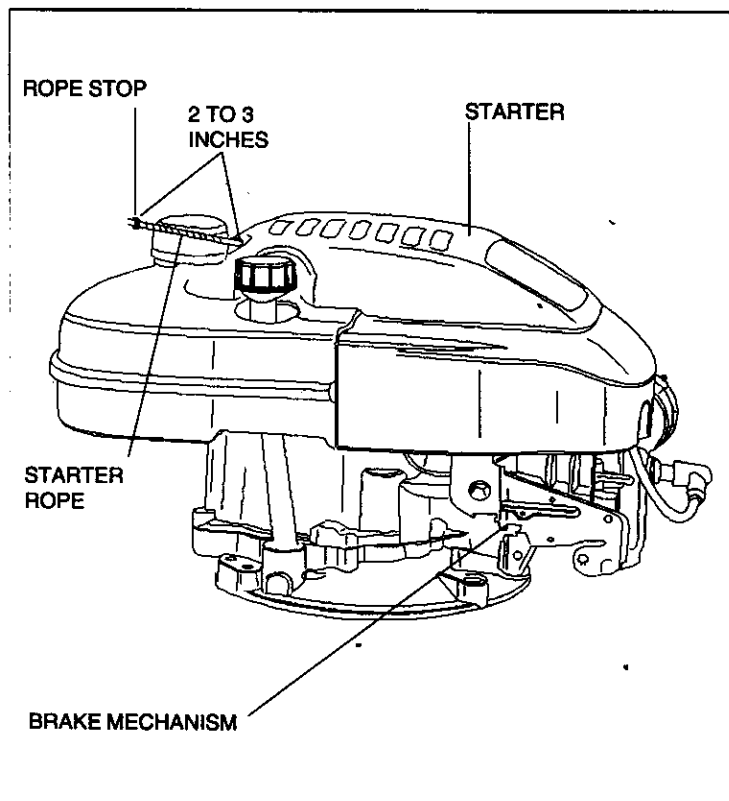
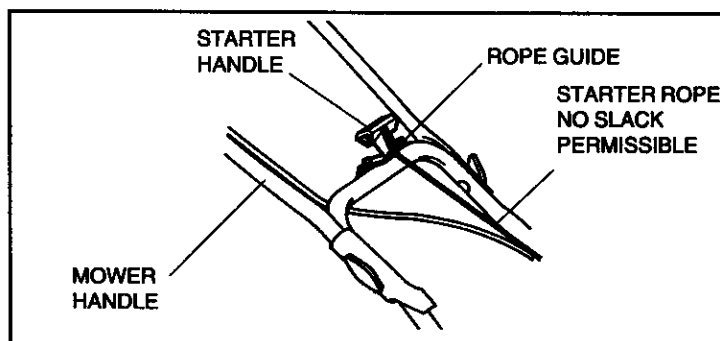

Figure 2
Figure 4
② **INSTALL ENGINE BRAKE CABLE AND STARTER ROPE: BRAKE CABLE (see Figure 2):**
- C. Slide rope stop (see Figure 2) onto starter rope and feed starter rope through rope guide on mower handle (see Figure 4).
- E. With starter handle resting on rope guide (see Figure 4), check starter rope for slack. If there is any slack, pull more starter rope through starter handle and relocate left hand knot to eliminate slack.
- H. Position rope stop 2 to 3 inches from starter (see Figure 2) and fasten it to starter rope by gripping it with pliers and forcing staple through starter rope until staple is even with outside of rope stop.
③ CHECK OIL LEVEL:
C. Grasp starter handle (see Figure 4) and pull rope out, slowly, until it pulls slightly harder. Let rope rewind slowly. Then pull rope with a rapid full arm stroke. Let rope rewind **SLOWLY**. Do not let starter handle snap back against rope guide (see Figure 4).